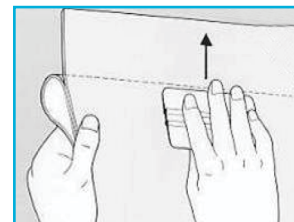

Figure 2.
5. Use care not to close off the Product's air release channels. Starting in the Product's center and using firm pressure, squeegee the Product, stroking toward the closest edge. Work across the Product to each outside edge. **See Figure 2.**